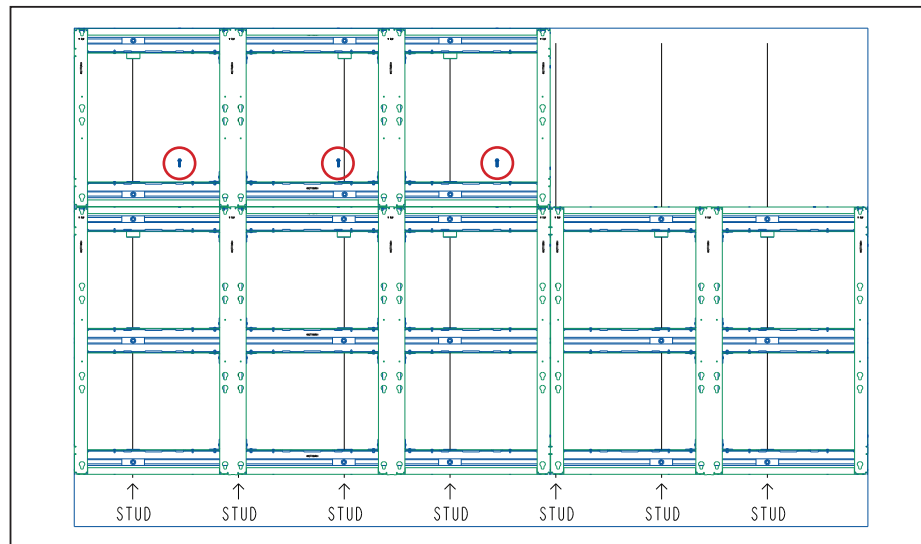
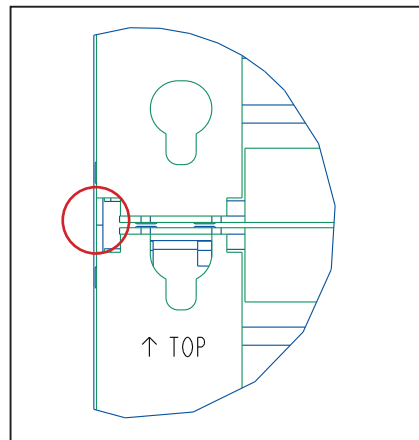
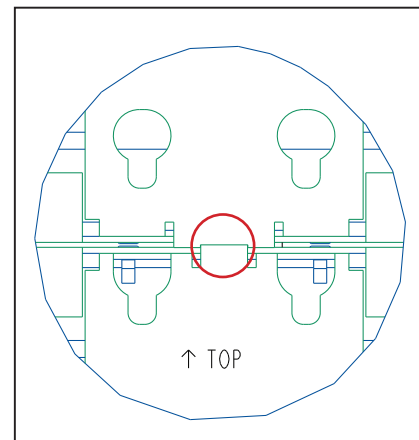

Figure 9: Install Stitch Bolts across Horizontal Seam
Figure 10: Ensure Alignment Tabs Are Flush & Even
Figure 11: Lock X & Y Position
- Install the supplied stitch bolts across the horizontal seam and tighten to lock the frame into place. Refer to **Figure 9**, **Figure 10**, and **Figure 11**.